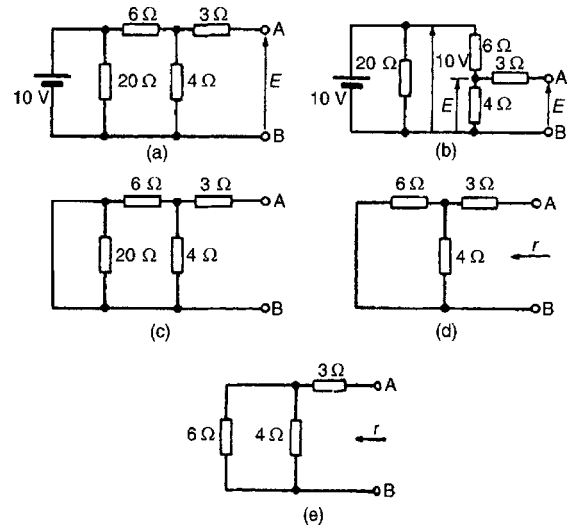

Figure 13.33
- (v) For the circuit shown in Fig. 13.33(a), the 3 Ω resistor carries no current and the p.d. across the 20 Ω resistor is 10 V. Redrawing the circuit gives Fig. 13.33(b), from which
- (vi) If the 10 V battery in Fig. 13.33(a) is removed and replaced by a short-circuit, as shown in Fig. 13.33(c), then the 20 Ω resistor may be removed. The reason for this is that a short-circuit has zero resistance, and 20 Ω in parallel
with zero ohms gives an equivalent resistance of $(20 \times 0)/(20 + 0)$ i.e. 0 Ω. The circuit is then as shown in Fig. 13.33(d), which is redrawn in Fig. 13.33(e). From Fig. 13.33(e), the equivalent resistance across AB,